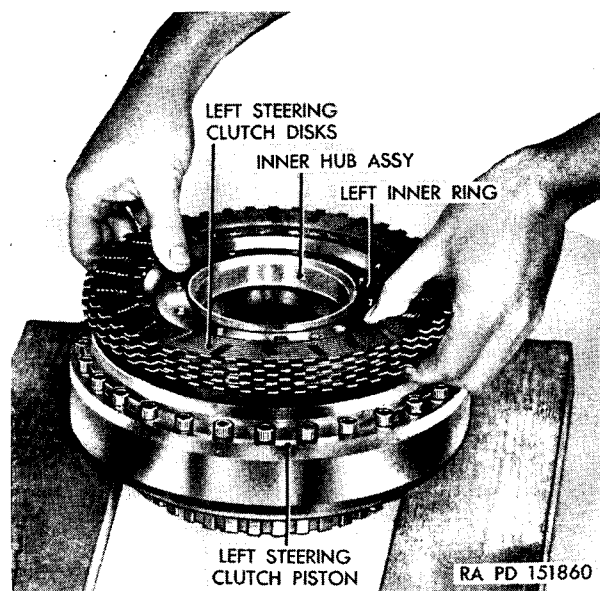

Figure 121. Installing left-steering-clutch pack.
c. Install the left steering clutch pack. It consists of four steel internally splined disks and four bronze externally splined disks. Insert a steel disk first, then a bronze and alternate steel and bronze, ending with a bronze disk (fig. 121).